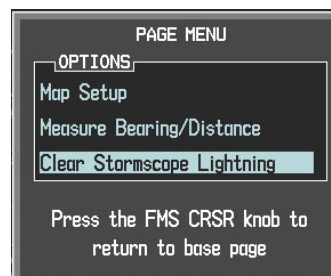

Figure 8-5 Navigation Map Page Options Menu
- OR: Press the **MENU** key (Figure 8-5). Select 'Clear Lightning Data' and press the **ENT** key.